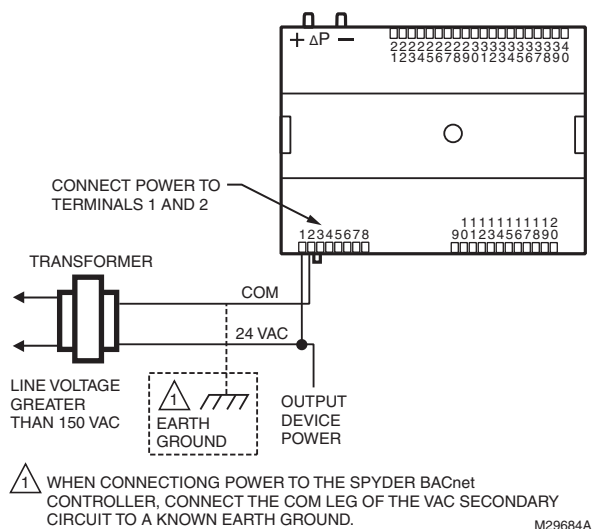
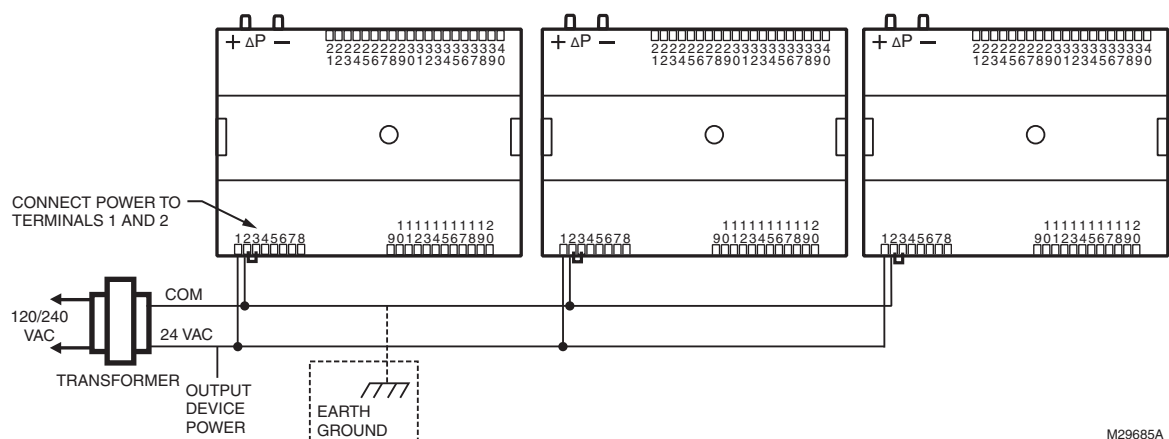

Fig. 11. Power wiring details for one controller per transformer.
Fig. 12. Power wiring details for two or more controllers per transformer.
- When multiple controllers operate from a single transformer, connect the same side of the transformer secondary to the same power input terminal in each device. The earth ground terminal (terminal 3) must be connected to a verified earth ground for each controller in the group (see Fig. 12 on page 10).
See Fig. 11–Fig. 12 beginning on page 10 for illustrations of controller power wiring. See Table 4 for VA ratings of various devices.
- For multiple controllers operating from a single transformer, the same side of the transformer secondary must be connected to the same power input terminal in each device. The earth ground terminal must be connected to a verified earth ground for each controller in the group (see Fig. 12 on page 10). Controller configurations are not necessarily limited to three devices, but the total power draw, including accessories, cannot exceed 100 VA when powered by the same transformer (U.S. only).
- See Fig. 11 on page 10 for controller power wiring used in UL 1995 equipment (U.S. only).
- Keep the earth ground connection wire run as short as possible (refer to Fig. 11–Fig. 12 beginning on page 10).
- Do not connect earth ground to the controller's digital or analog ground terminals (refer to Fig. 11 and Fig. 12).
- For multiple controllers operating from a single transformer, the same side of the transformer secondary must be connected to the same power input terminal in each controller. Controller configurations will not necessarily be limited to three devices, but the total power draw, including accessories, cannot exceed 100 VA when powered by the same transformer (U.S. only). For power and wiring recommendations, See "Power" on page 7. The earth ground terminal (terminal 3) must be connected to a verified earth ground for each controller in the group (see Fig. 12 on page 10).
Fig. 11 depicts a single controller using one transformer.
Connect terminal 2, (the 24 Vac common [24 VAC COM] terminal) to earth ground (see Fig. 11).
More than one controller can be powered by a single transformer. Fig. 12 shows power wiring details for multiple controllers.